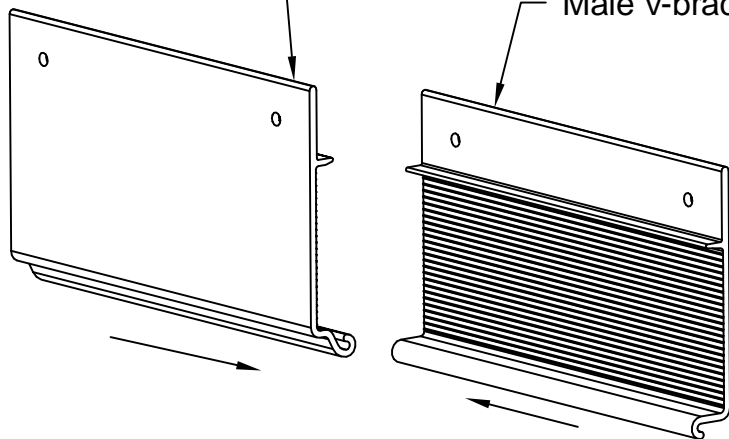

Fig. 3A
- ❑ Slide the two V-brace clamps together and center on the side frame beam. See Fig. 3A.